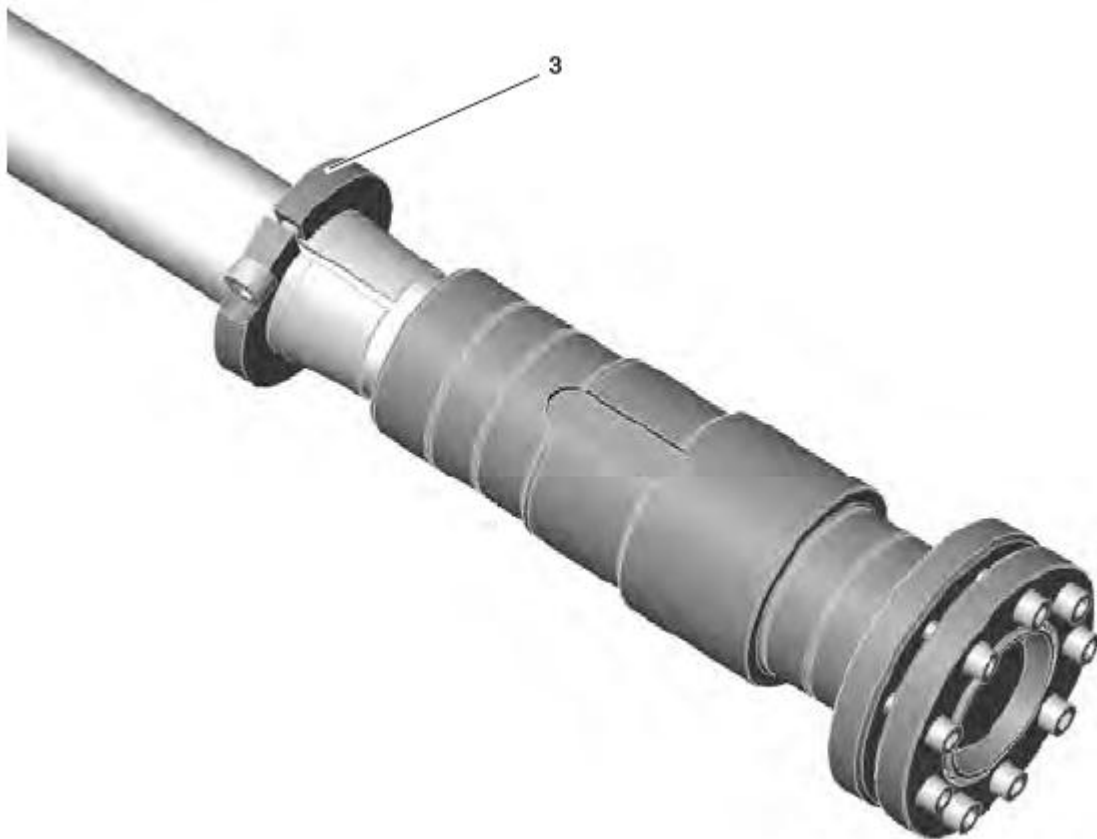

Figure 4-20. Securing the Support Bushing
Refer to Figure 4-20. Secure the support bushing with the clamping ring (3).